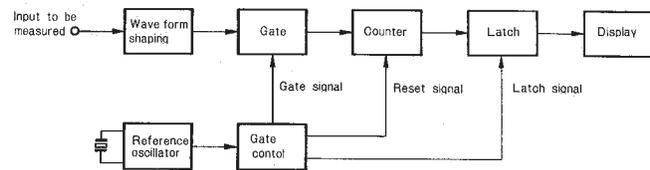
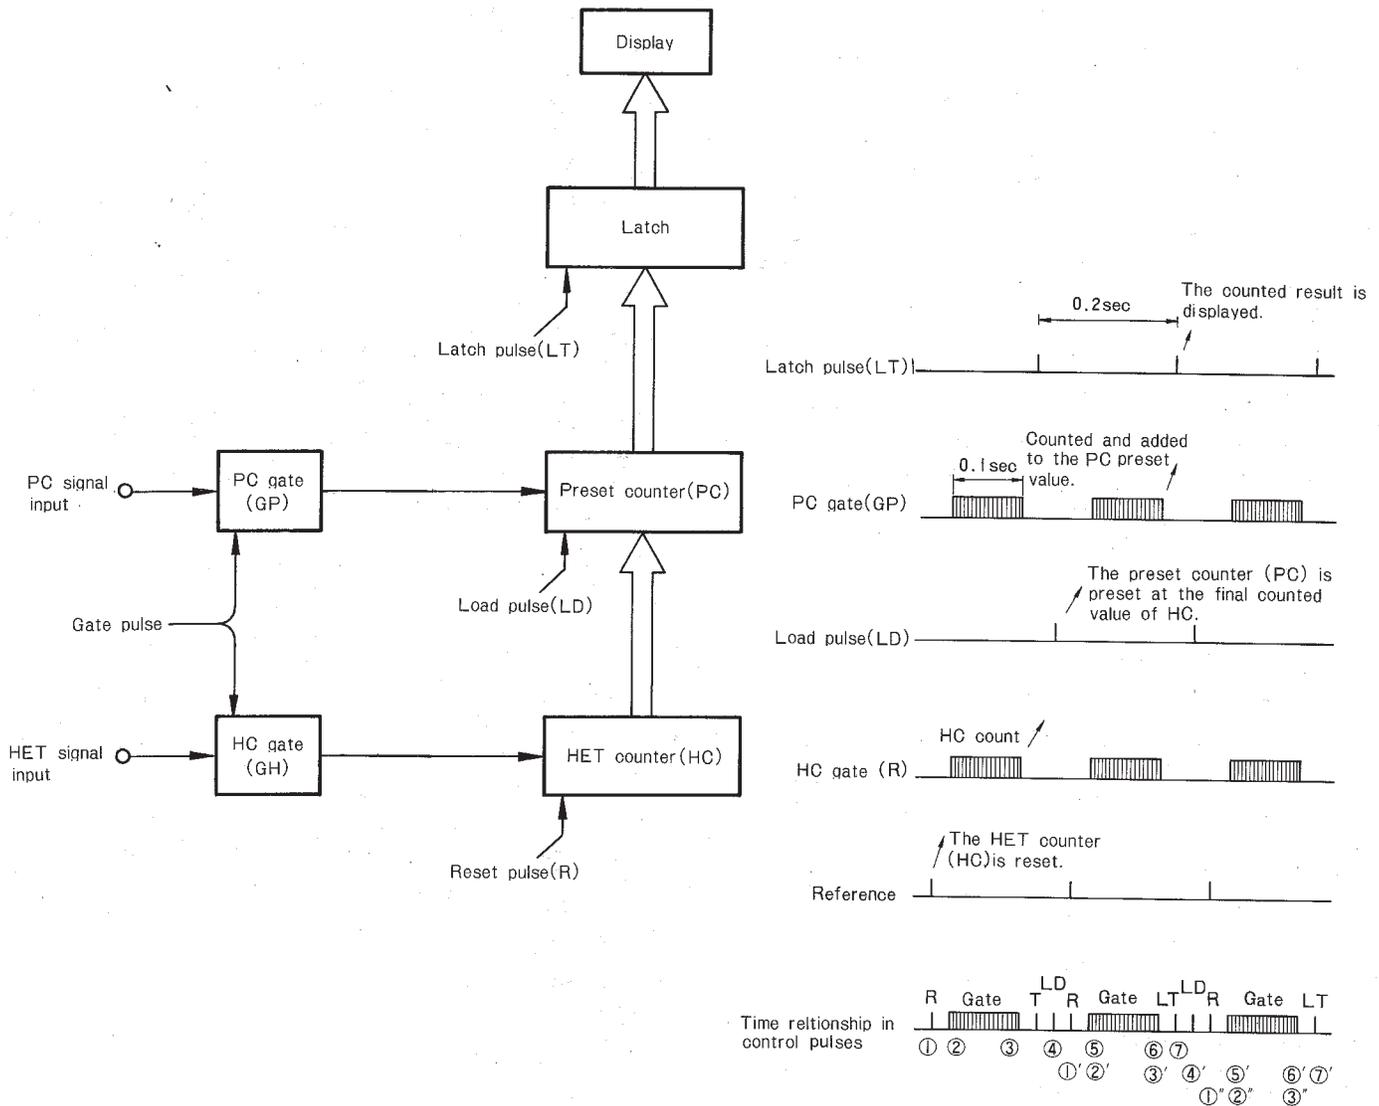
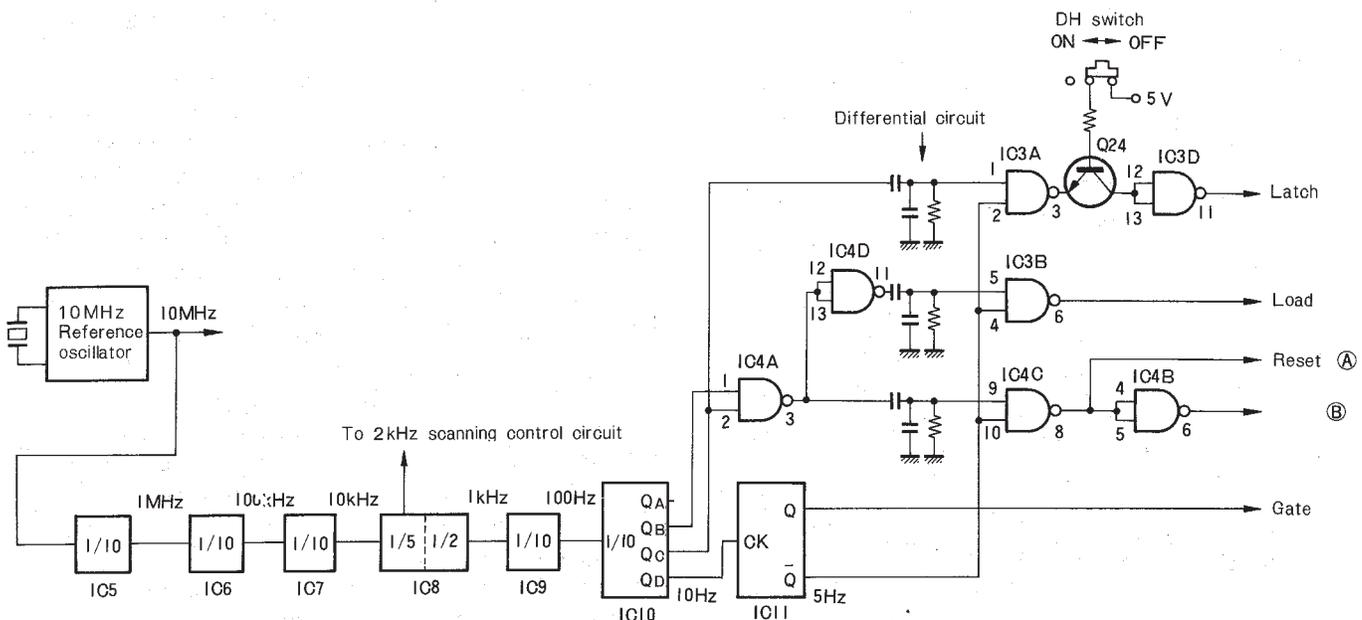
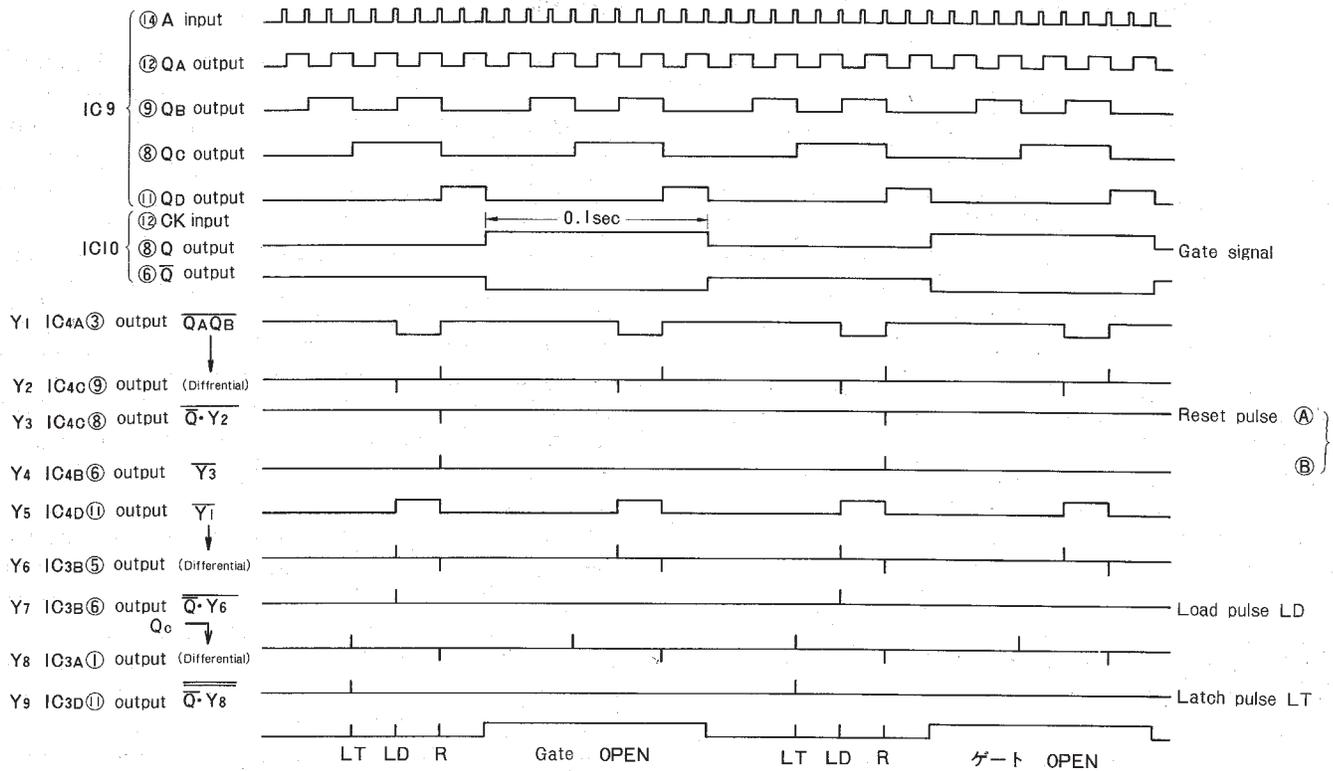

Fig. 12 Principle of Frequency Counter
Fig. 13 Time Relations of Counter Control Pulse
Fig. 14 Control Pulse Generator
Fig. 15 Timing Chart of Control Pulse Generation
The general principle of the frequency counter is explained by the block diagram shown in Fig. 12. The input signal to be measured is amplified, shaped, and converted into pulses. The gate circuit is open for a predetermined time period which is based on the reference time. The pulses passing through the gate while it is open are counted at the counter block and temporarily memorized in the latch circuit. At predetermined intervals the memorized information is sent to the display. The sequential order for the above is as follows:
The reset, gate, and latch signals control the respective blocks in proper sequence. As previously described for the principle of display frequency synthesis, the DG-5 is provided with an additional preset counter and the contents in the two counters are combined. Fig. 13 shows the time relationship for the control pulses. Compared with the case of Fig. 12, the load pulse (signal) is added and this is used for a preset command. The sequential order for the block diagram in Fig. 13 is as follows:
- (1) With a reset signal the condition in the HET counter is made "0."
- (2) With a gate signal the HC gate circuit is open and the HET signal pulses pass through the gate. The HET counter begins to count the pulses which pass the gate.
- (3) When the gate signal disappears, the HC gate circuit is closed and the HET counter terminates its counting.
- (4) With a load signal the preset counter is preset at the final counting value at the HET counter.
- (5) With a gate signal the PC gate is open and the PC signal pulses pass through the gate. The preset counter begins to count the passed pulses and to add the result to the preset value.
- (6) When the gate signal disappears, the PC gate is closed and the preset counter terminates its counting.
- (7) With the latch signal the preset counter value memorized in the latch circuit is delivered to the display unit where the result is displayed.
- (8) Return to state (1) and the same sequence is repeated. In this case the HC gate and the PC gate operate simultaneously with the same gate signal. As shown in Fig. 13, the cycles (1) to (7) advance together, but there is always an overlap of half a cycle between the neighboring cycles.
For the orderly control of the DG-5 gate and counter in Fig. 13, the control pulse generator is employed. Fig. 14 shows this circuit together with the frequency divider circuit. Fig. 15 shows the timing chart for explaining the operating condition. In Fig. 15, the 10MHz signal from the reference oscillator is frequency-divided to units of 10Hz. This division is performed by the IC5 ~ 10 in 6 stages, each in charge of 1/10 division. When the obtained 10Hz signal is used to drive the flip-flop circuit of IC11, a 50% duty square wave of 5Hz is obtained. As shown in the timing chart of Fig. 15, the H level section corresponds to half a cycle of 5Hz, i.e. 0.1 second. Therefore this section is used as a gate signal. Similarly outputs of IC10 and IC11 are combined, and the NAND logic and the differential circuit are combined in the sequential order of Y1 to Y9 as shown in the timing chart. Thus the respective reset, load, and latch pulses are produced. There are two types of reset pulses, A and B, because the SN74196N of the HET counter is for the negative logical input while the SN74LS90N is for the positive logical input. Q24 is a transistor gate for the DH circuit. It is turned on when the DH is off.